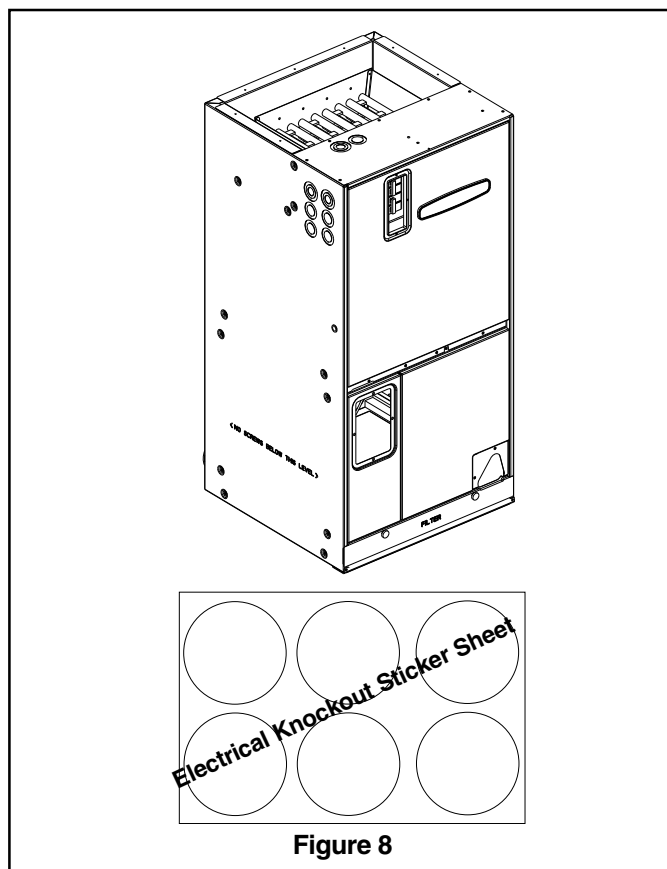

Figure 8
Use 2.5" clear stickers provided to seal all unused electrical knockouts. See Figure 8.
- Openings where field wiring enters the cabinet must be completely sealed.** Location of power entry is shown on the outline drawing. Use 2.5" clear stickers provided to seal all unused electrical knockouts. See Figure 8.
- h. **Openings where field wiring enters the cabinet must be completely sealed.** Location of power entry is shown on the outline drawing. Use 2.5" clear stickers provided to seal all unused electrical knockouts. See Figure 8.